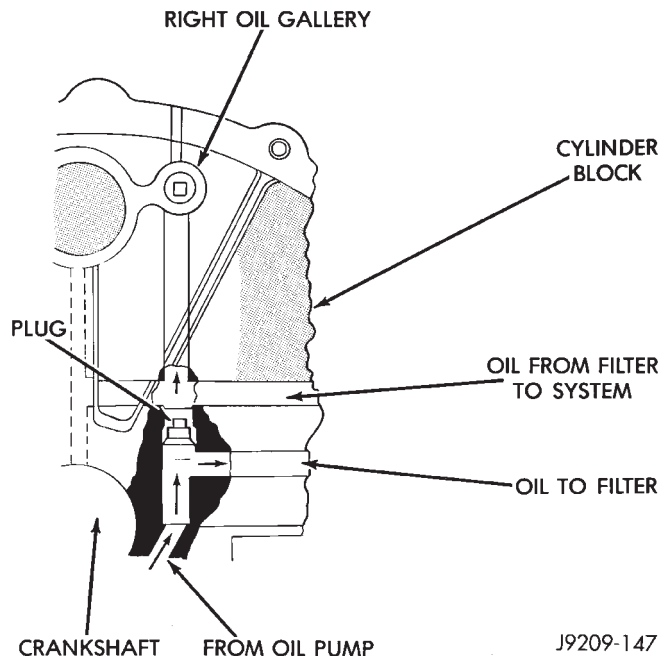

Fig. 67 Oil Line Plug
The oil line plug is located in the vertical passage at the rear of the block between the oil-to-filter and oil-from-filter passages (Fig. 67). Improper installation or plug missing could cause erratic, low, or no oil pressure.
(1) Remove oil pressure sending unit from back of block.
(2) Insert a 3.175 mm (1/8 in.) finish wire, or equivalent, into passage.
(3) Plug should be 190.0 to 195.2 mm (7-1/2 to 7-11/16 in.) from machined surface of block (Fig. 67).